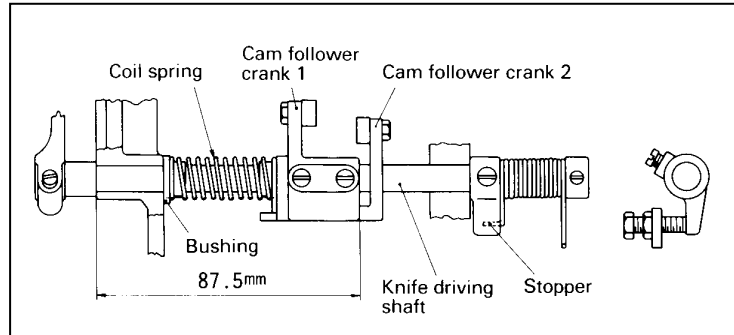

Fig.32
- (1) The standard position is illustrated as Fig.32.
- (2) When assembling, the knife driving shaft must first be put through the drive arm.
- (3) Cam follower crank 1 must be positioned as illustrated to the right, and secured on the recess located on the knife driving shaft.
- (4) The stopper must be secured on the recess in such a way that the knife driving shaft is snug and smoothly rotates in the shaft direction.